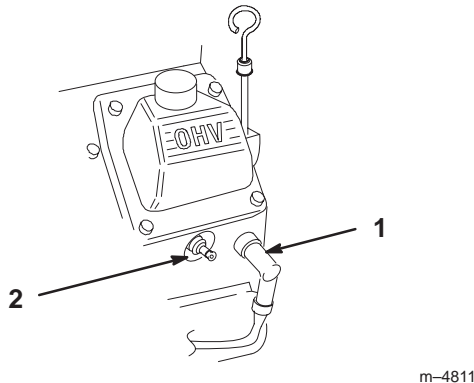

Figure 44
3. Pull the wire(s) off the spark plug(s) (Fig. 44). Now clean around the spark plug(s) to prevent dirt from falling into the engine and potentially causing damage.
3. Push the wire(s) onto the spark plug(s) (Fig. 44).